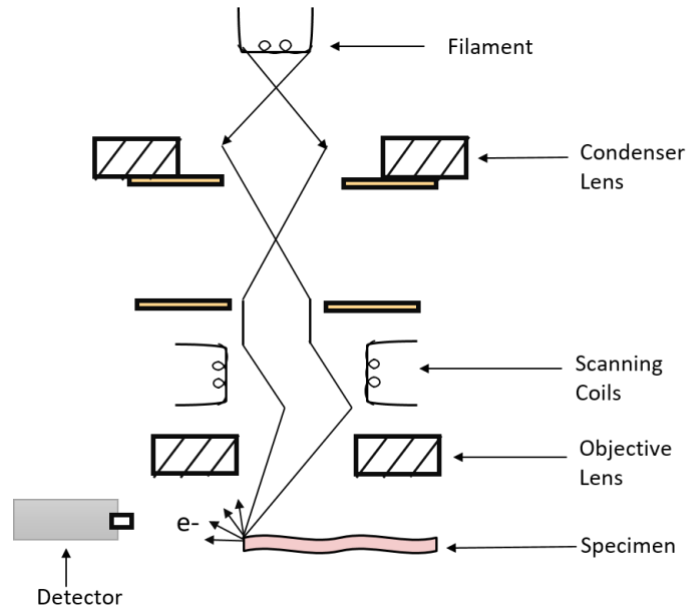

Figure 5.3.1: Scanning Electron Microscope
- Here as shown in *Figure 5.3.1* electron beam is obtained from electron gun and it is made to pass through a condenser lens. Next stage is the scanning coil which is used to focus the electron beam on a small spot-on specimen surface and also to scan the surface like electron beam scans in TV picture tubes.